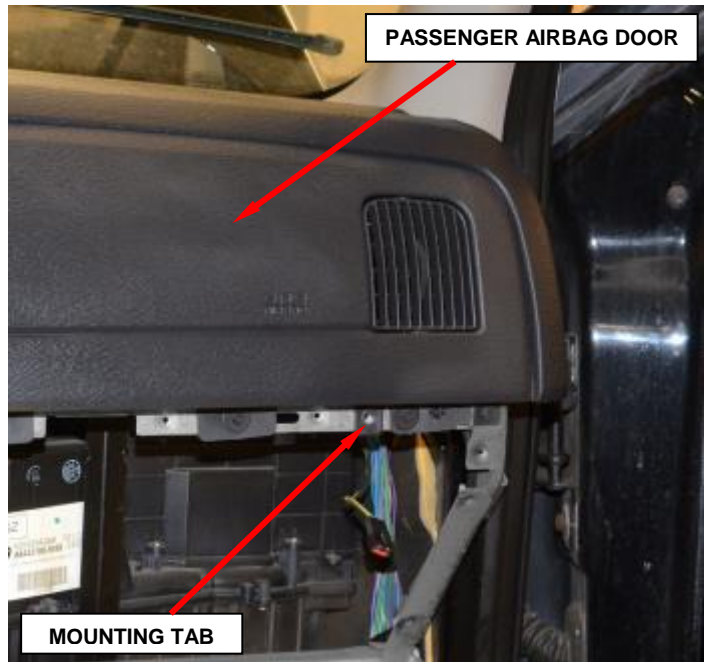

Figure 13 – Panel Outlet Housing Mounting Tab
11. Remove and save the screw that secures the mounting tab of the panel outlet housing to the upper glove box opening reinforcement (Figure 13).
28. Install the screw that secures the mounting tab of the panel outlet housing to the upper glove box opening reinforcement. Tighten the screw to 20 in. lbs. (2 N·m) (Figure 13).